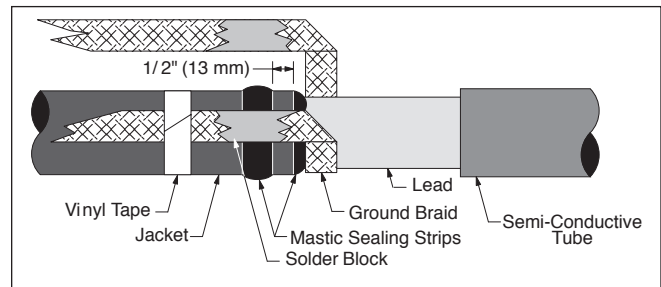

Figure 16
- 6.2 Apply a mastic sealing strip around cable jacket, 1/2" (13 mm) from jacket end or tape marker (*Figure 16*).
- 6.3 Position and tape one leg of ground braid along PILC cable, centering solder-block on mastic sealing strip. Wrap braid around cable lead (*Figure 16*).